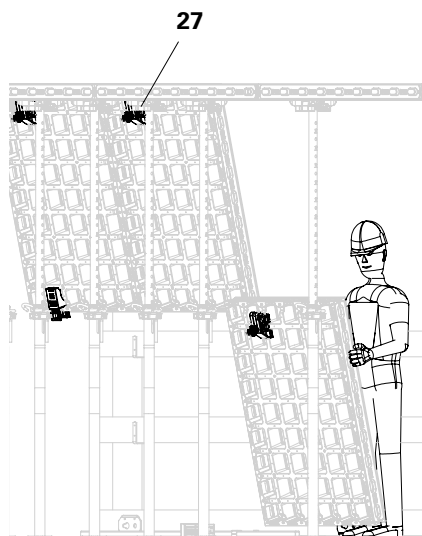

Fig. D4.02
1. Attach DP panels (**10**) together with the DUO brace connector (**27**) to the slab prop with DFH prophead (**31**). (Fig. D4.02)